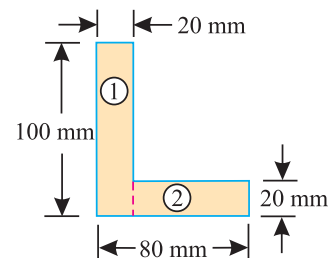

Fig. 7.16.
**Example 7.12.** Find the moment of inertia about the centroidal X-X and Y-Y axes of the angle section shown in Fig. 7.16.
**Solution.** First of all, let us find the centre of gravity of the section. As the section is not symmetrical about any section, therefore we have to find out the values of  $\bar{x}$  and  $\bar{y}$  for the angle section. Split up the section into two rectangles (1) and (2) as shown in Fig. 7.16.